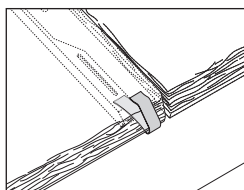

Fig 4 Use tile clip for raking cut Melbourn slates
- 6 When using Melbourn slates, secure the double slates to the right hand of the hip by using the special tail clip fitted over the interlock and the adjacent slate (Fig 4).